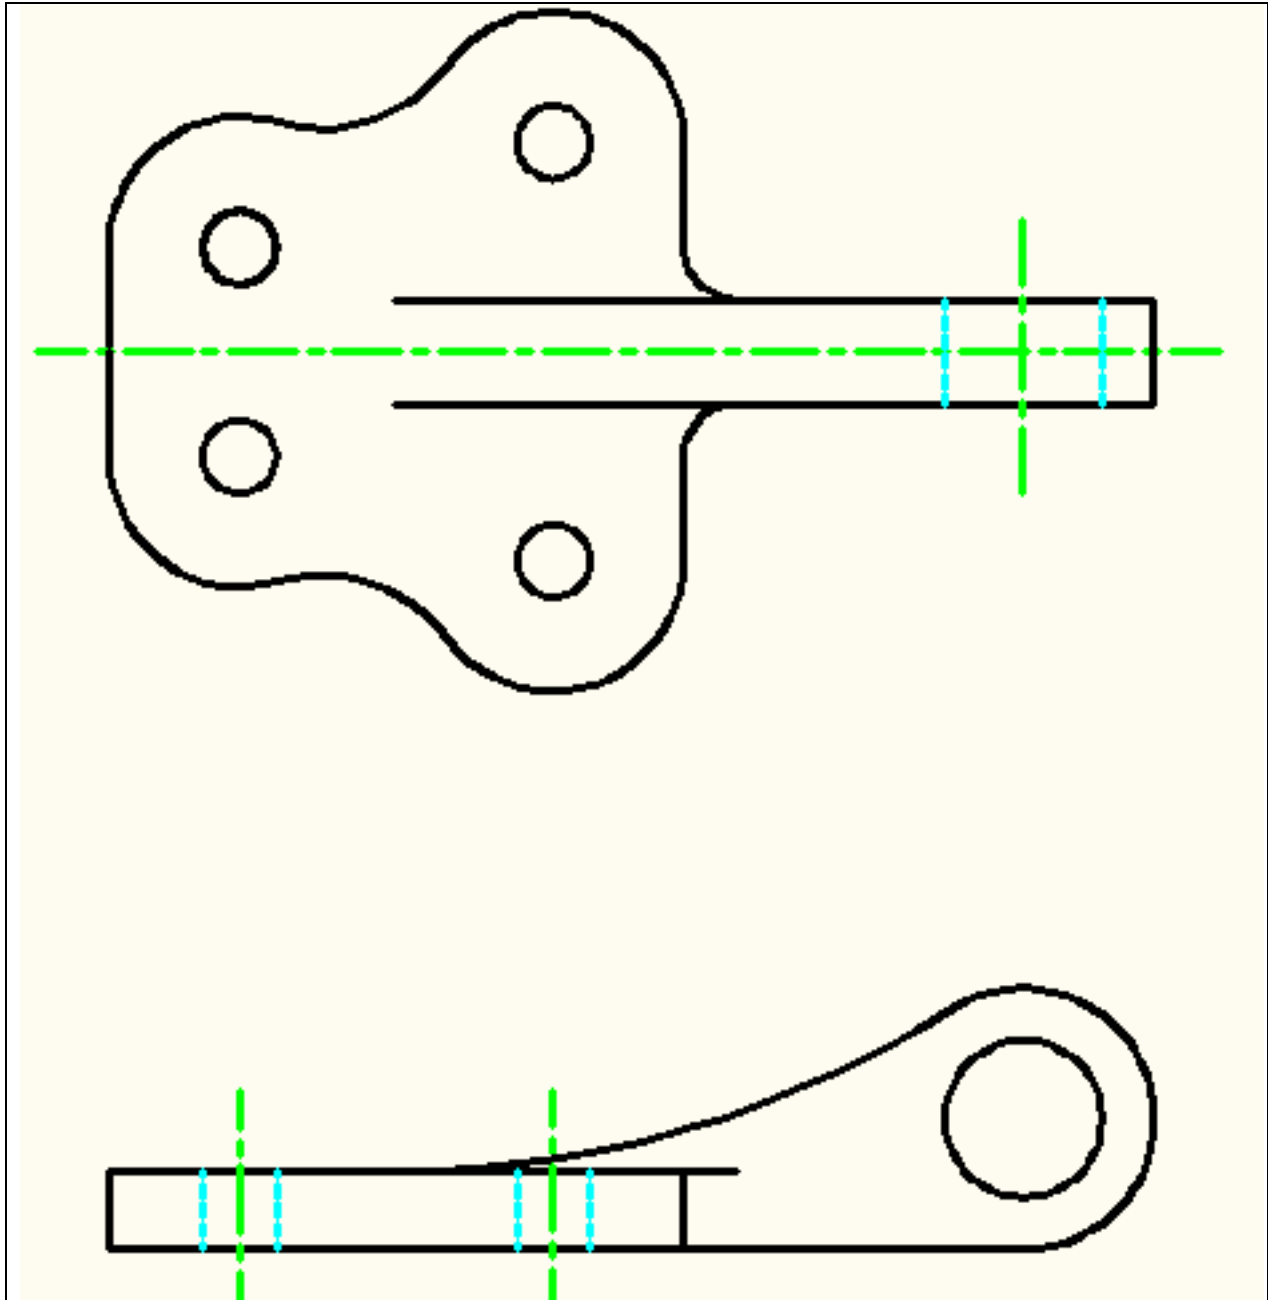

Figure 10.35 – The Bracket problem
Figure 10.35 shows the complete display of a properly drawn Bracket problem for your preview.
* World Class CAD Challenge 02-21* - Create a New file using the Metric template, and draw the 39 entities shown in Figure 10.35 in 3 minutes 15 seconds. Continue this drill four times, each time completing the drawing under 3 minutes 15 seconds to maintain your World Class ranking.